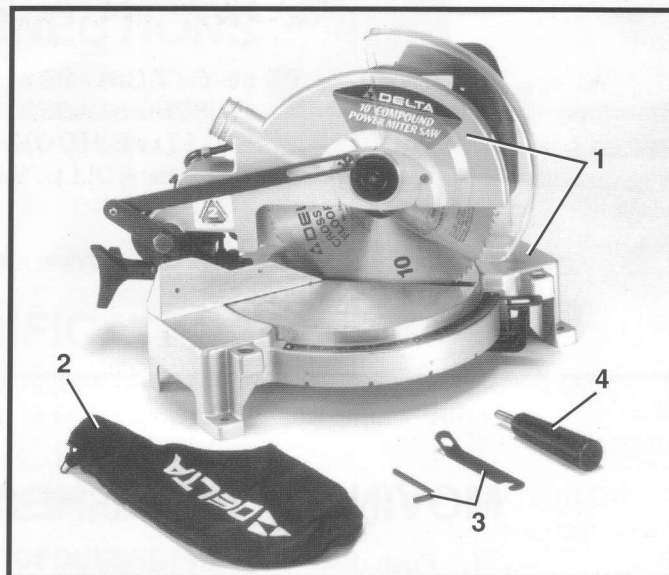

Fig. 2
1. Remove the miter saw and all loose items from the carton. **IMPORTANT: DO NOT LIFT THE MITER SAW BY THE SWITCH HANDLE AS THIS MAY CAUSE MISALIGNMENT. ALWAYS LIFT THE MACHINE BY THE BASE OR CARRYING HANDLE.** Fig. 2, illustrates the machine and all loose items after they have been removed from the carton.